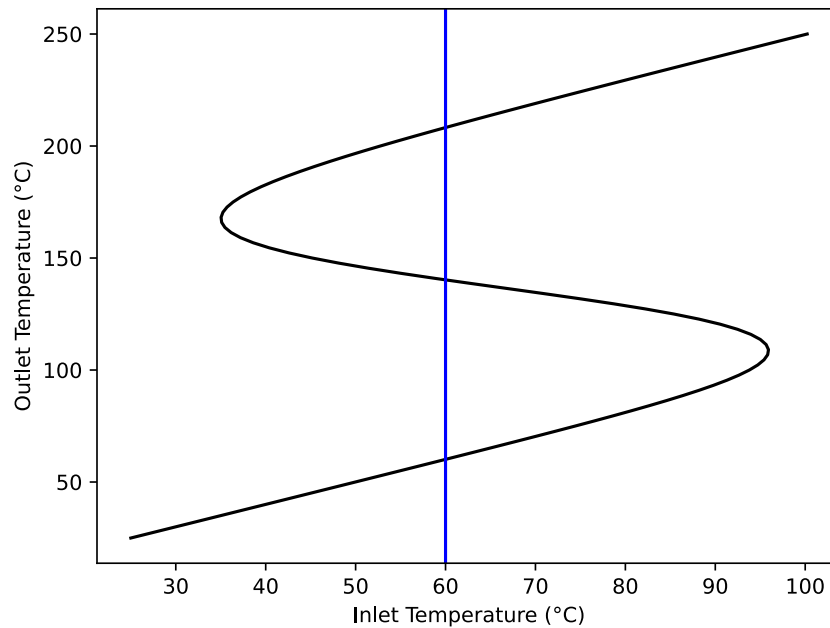

Figure 1. Outlet temperature as a function of inlet temperature.
When generating the multiplicity plot, the ATE solver converged with the initial guess in equation (11), but the range of values chosen in equation (10) was too broad, so it was adjusted to an appropriate range for the multiplicity plot. The result is shown in Figure 1, where it can be seen that there are three steady states.